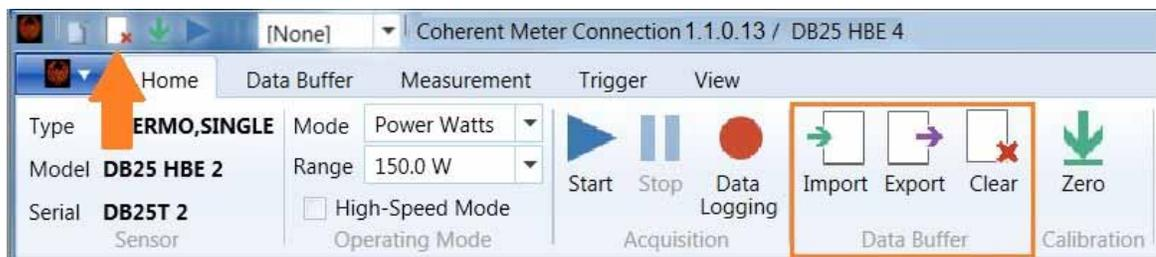

Figure 6-11. Export or Clear Data
8. In the [Home tab], click an icon to export or clear the capture. You can also click the Clear icon in the Quick Access toolbar, shown in Figure 6-11.